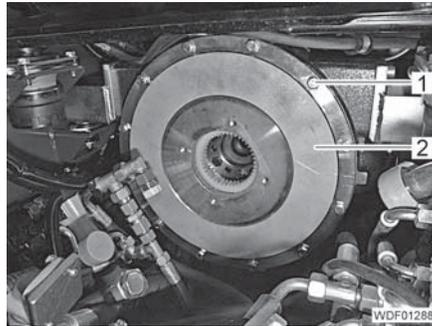

Fig. 67 Clutch bell
- Unscrew all screws (Fig. 67,1).
- Remove the clutch bell (Fig. 67,2).